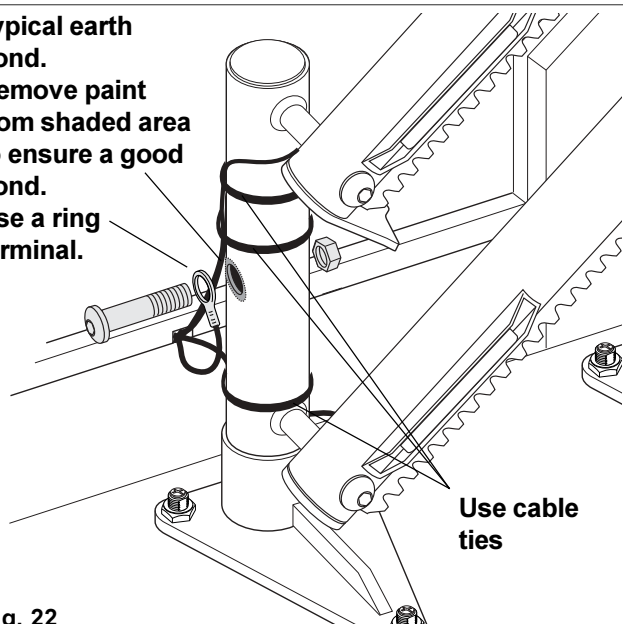

Fig. 22
- 8 Fit the charge looms to the stanchion closest to their exit points from the top rail, and secure to the stanchion with cable ties to ensure no contact can be made with the stairlift (Fig. 22).
(Refer to Fig. 22).